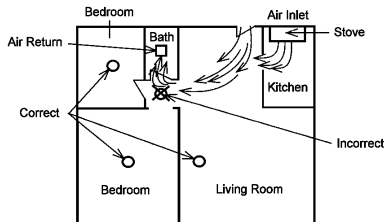

Figure 5
- **In air streams passing by kitchens.** Figure 5 shows how a smoke alarm can be exposed to combustion particles in normal air movement paths, and how to correct this situation.